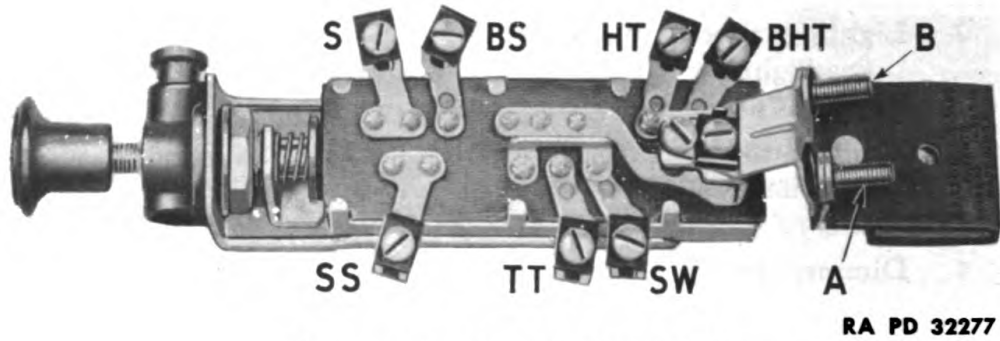

Figure 61—Main Light Switch
e. **Light Switch** (fig. 61). The light switch has four positions. When the button is pushed in all the way, the switch is in the "OFF" position. Pulling the knob out to the first position turns on the blackout marker lights, the blackout taillights, and also provides a circuit for the blackout stop light and blackout driving light. Pulling the knob to the next position turns on the main driving lights and service tail and stop light. When the switch is all the way out, the service stop light is connected for use in daylight driving. The terminals are marked as shown in figure 61, and the connections to the junction block and ammeter are shown in the following table.